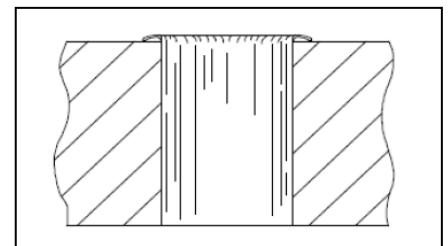

Figure 9 Doughnut Burr
- g. Doughnut Burr (see Figure 9):